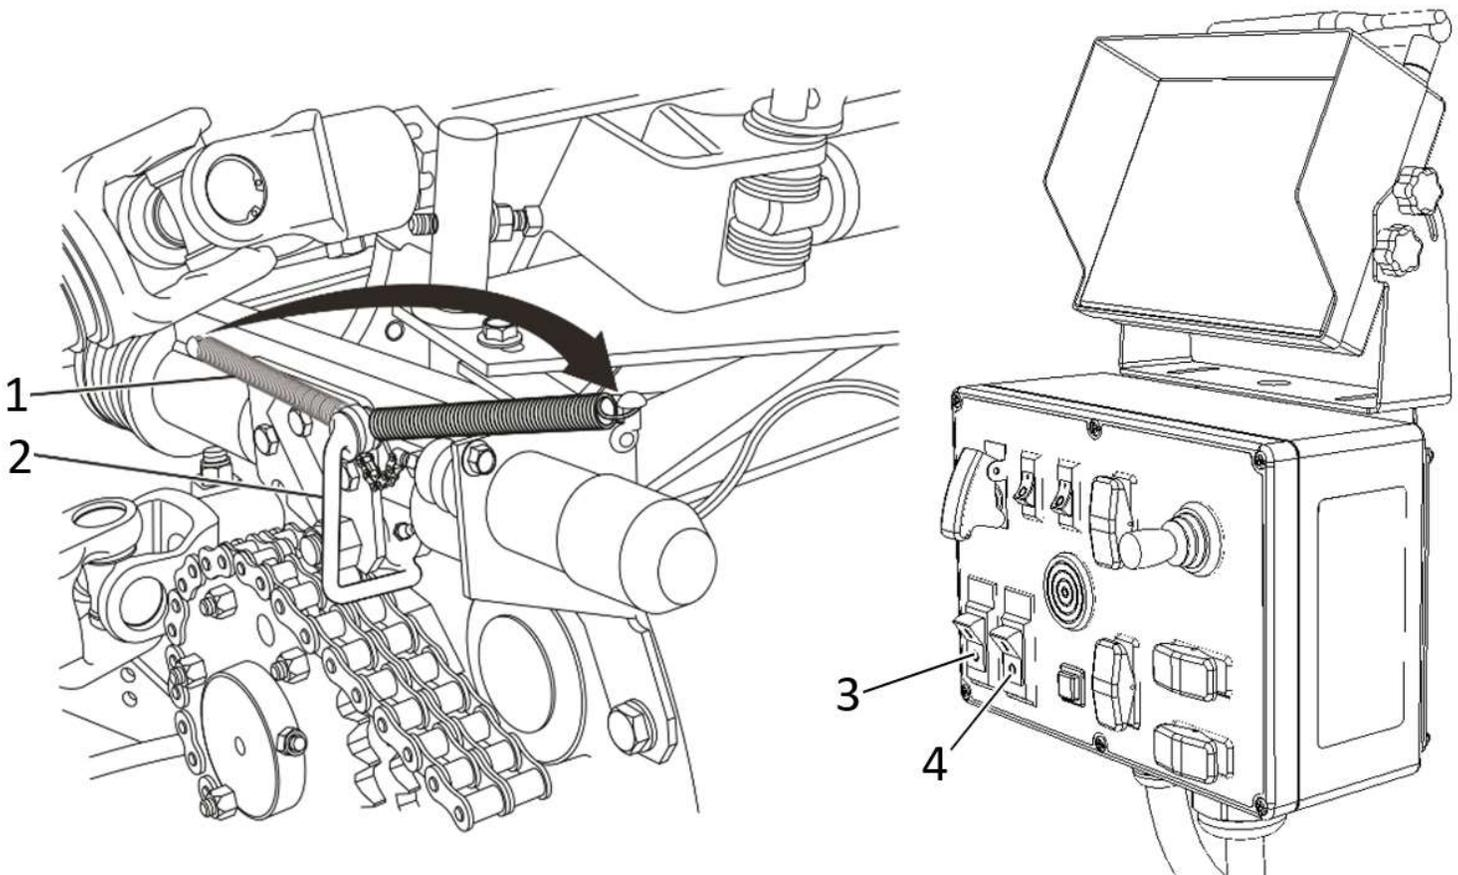

Figure 68 Disabling the metal detector
When the metal detector fails to operate, it can be useful to by-pass the system in order to complete a full harvest day. However, when doing so, it must be taken into consideration that this is an **emergency and exceptional situation**. If this is the case, follow this procedure and refer to Figure 67 and Figure 68:
1. Switch ON both the breaker & switch (items 3 and 4, Figure 68) on the control box.
2. Press and hold the « R » button to run the feed rolls and header in reverse for a few seconds to allow the stop pawl (item 1, Figure 68) to disengage from the stop cam wheel.
- b **If the solenoid is not functional**, apply step "A", then attach the stop pawl spring (item 1, Figure 68) back to the second hook (see the arrow). Make sure the stop pawl clears the ratchet cam wheel.
In the cases where a speed sensor has failed or another reason which requires disabling the drive failure detector, proceed as described in Figure 68: